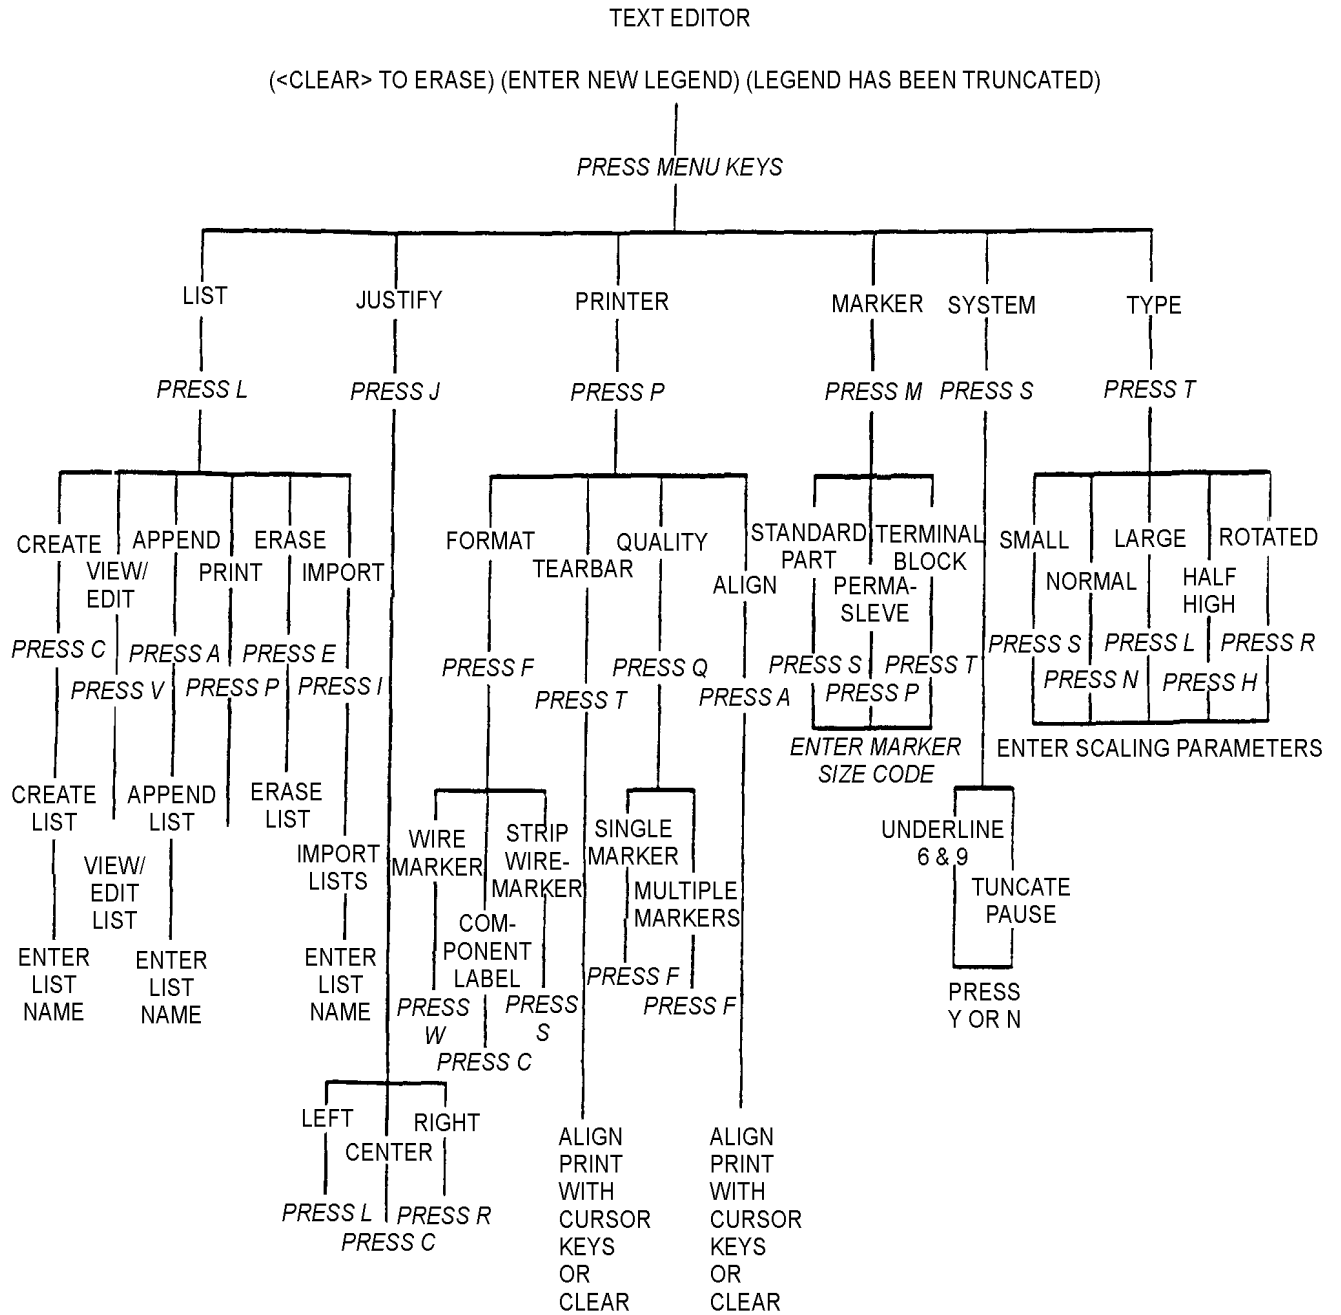

Figure 22. Menu Tree
(2) Component Label Format. The component label format is designed to print all lines of a legend one time before advancing to the next marker.
(3) Strip Wiremarker Format. The strip wiremarker format is designed to be used with the strip, series of labels or PermaSleeve labels. The strip wiremarker is similar to the wiremarker format except that it is designed to print duplicate markers on a multiple across label (also referred to as butt cut set). The legend composed in this format will be duplicated in each strip of the butt cut set. It should be noted that the set is considered a single marker for serializing or printing.
73. **Type Size.** The LS 2000 will print in 5 different type sizes (Figure 22)
78. **MENU TREE.** The general structure of the software is displayed in the menu tree (Figure 22). When you reach the options level of menu operations, the printer indicates that it accepts your input or selection with a brief 3-beep tone and will return to the TEXT EDITOR.